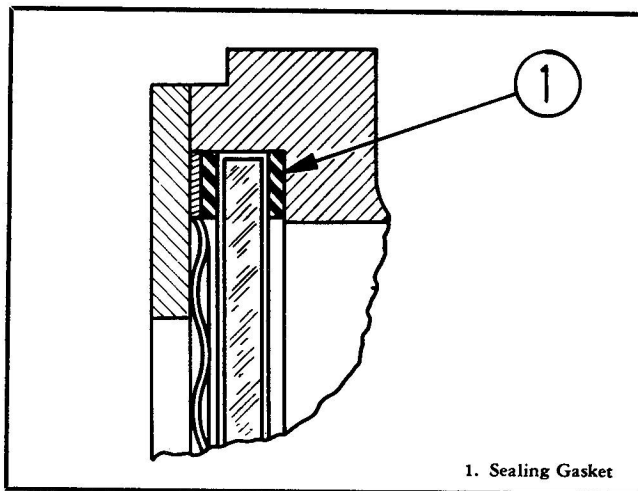

Figure 2-3. Sealing of Glass in Case
a. Carefully direct card and mounting assembly (41) into case assembly (48). Secure with gasket (39) and guide nut (40). Replace filling plug (38) and gasket (39).
b. Install flat spring (37) and lubbers line assembly (36) in groove of case.
c. To obtain a perfect seal, the rubber sealing gasket (34) must be cemented in case. (See 1, figure 2-3.) The adhesive used is Minnesota Mining and Manufacturing Company's 3M Sealer Formula EC 1093 (MIL-S-7126). This cement is to be thinned with special non-solvent accelerator EC 1063 in the proportion of seven parts by weight of EC 1093 to one part by weight of EC 1063.